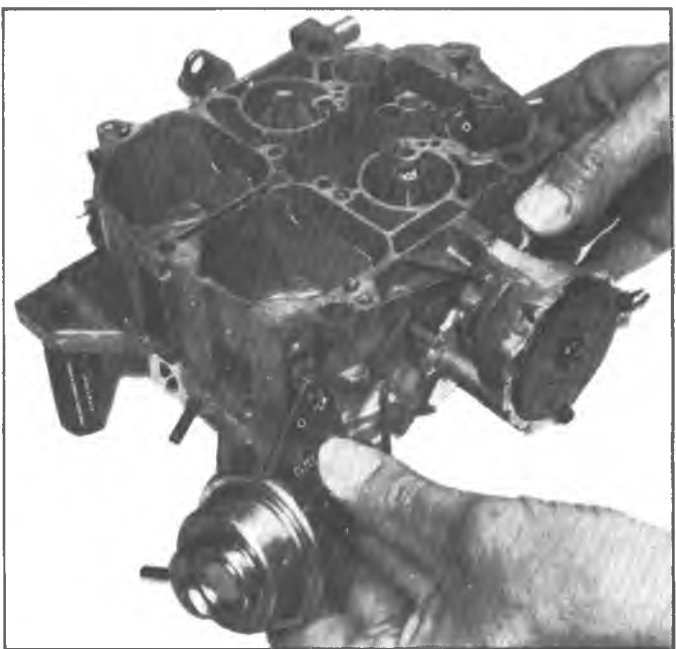

Fig. 14MQ—Rear Vacuum Break
11. Remove hose from rear vacuum break control assembly. Remove two screws from rear vacuum break bracket and rotate the assembly to remove vacuum break rod from slot in plunger head (Fig. 14MQ).
2. Install end of vacuum break rod in slot in rear vacuum break plunger head. Then install rear vacuum break control and bracket assembly to float bowl using two attaching screws (Fig. 14MQ). Tighten securely.